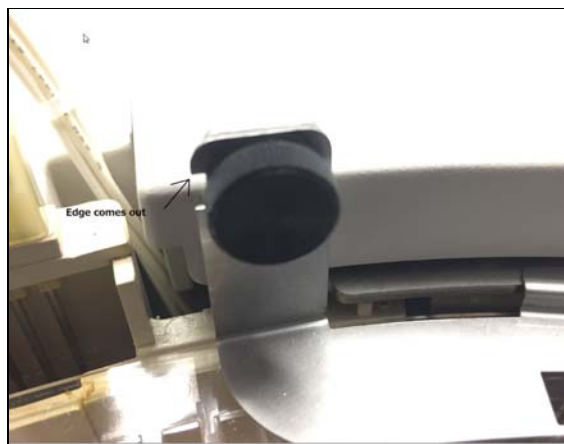

Figure 2: Sharp edge of USM Cover 3
3. While loosening the left thumb screw, the operator felt a sharp pain in her left thumb and realized that it was bleeding. Her thumb was injured by the 90 degree-edge of the USM Cover 3, which is shown in Figure 2.